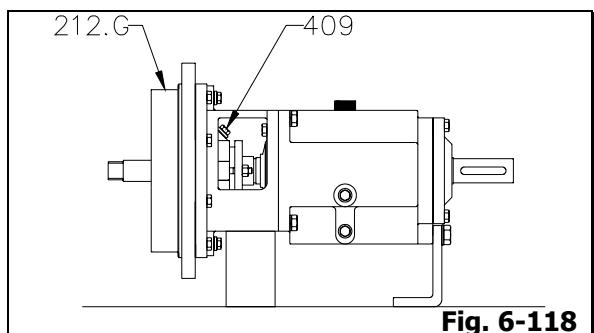

Fig. 6-118
11. Install all connection plugs (409) or/and piping adaptors into stuffing box cover (212.G) (Fig. 6-118).